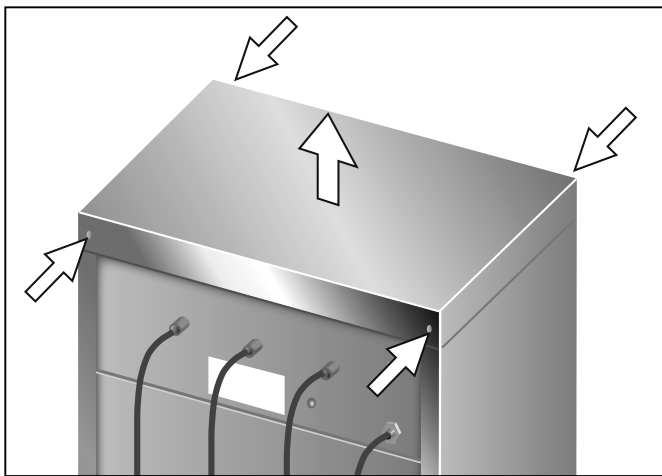

Fig. 5
4. Dismantle the cover of the central water supply. To do so, remove the four screws at the front and back and lift off the cover (Fig. 5).